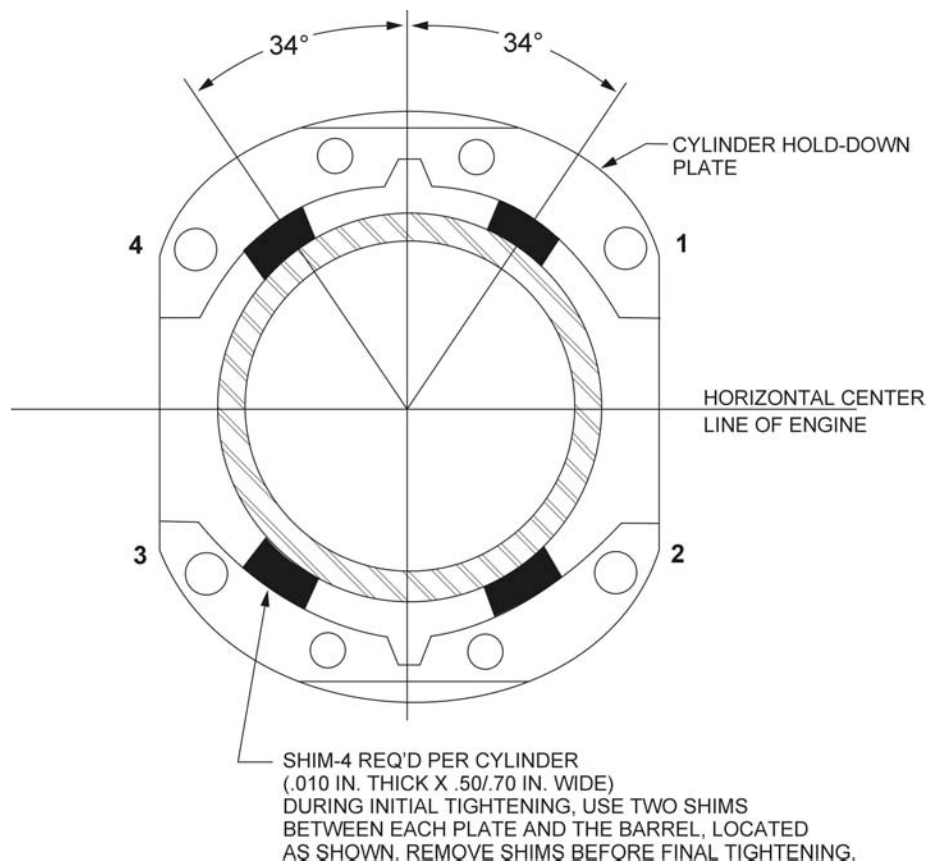

Figure 5-4. Location of Shims Between Cylinder Barrel and Hold-Down Plates (where applicable) and Sequence of Tightening Cylinder Base Hold-Down Nuts
- (a) (*Engines using hold-down plates*) – Install shims between cylinder base hold-down plates and cylinder barrel, as directed in Figure 5-4, and tighten ½ inch hold-down nuts to 300 in.-lbs. (25 ft.-lbs.) torque, using the sequence shown in Figure 5-4.